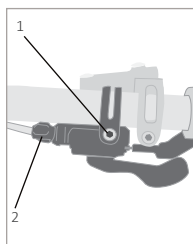
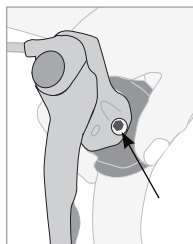

FIGURE 3.16
FIGURE 3.17
1. Find the lever-clamp bolt (Figure 3.16 or Figure 3.17).